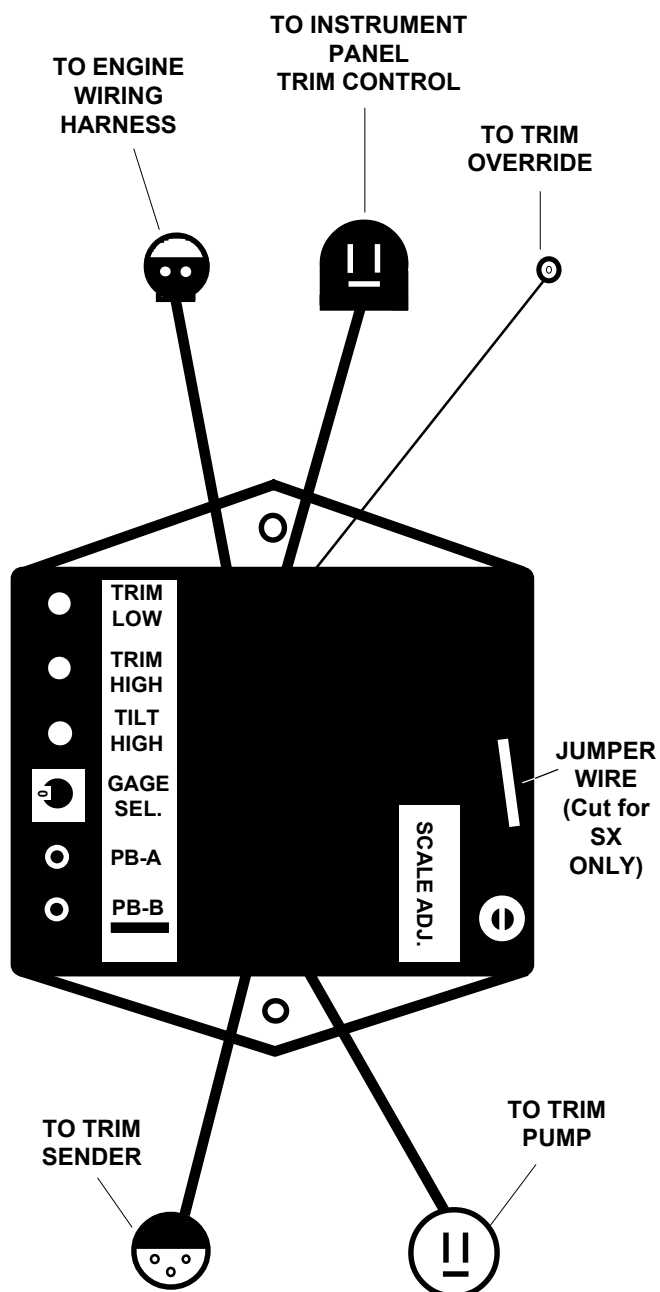

Figure 1. Trim Limiter Connection Identification
2. Apply a light coat of waterproof grease to both sides of the trim pump plug (see figure 1) leading directly to the trim pump. Align the receptacle with the cable plug and press firmly together.
3. Apply a light coat of waterproof grease to trim sender plug (see figure 1) leading directly to the transom shield. Align and connect the plug and press firmly together, secure with a retaining clip.
4. Apply a light coat of waterproof grease to trim override plug (see figure 1) leading to the instrument cable override lead. Align and connect the plug and press firmly together.
5. Apply a light coat of waterproof grease to trim control plug (see figure 1) leading to the instrument panel trim/tilt harness. Align and connect the plug and press firmly together.
6. Apply a light coat of waterproof grease to both sides of engine harness connector plug (see figure 1). On diesel applications, this connector will connect directly to the trim cable leading to the trim controls and bypass the engine wiring harness. Align receptacle with the cable plug and press firmly together, secure with a retaining clip.